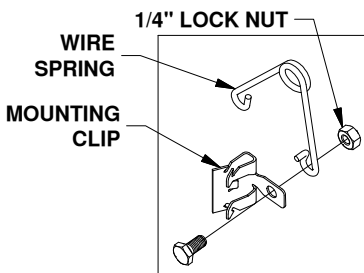
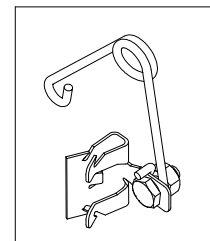

Figure D1: Leveling kit parts.
Figure D2: Assembled leveling kit.
- Assemble kit.** Locate the 1/4" cap screw and nut, along with the wire tension spring and mounting clip. Pass the 1/4" cap screw through the mounting clip and the wire spring, as shown in Figure D1. Thread the 1/4" lock nut onto the 1/4" cap screw. Tighten the lock nut just enough that the spring will stay in place but will still be able to rotate around the bolt if needed, see Figure D2.